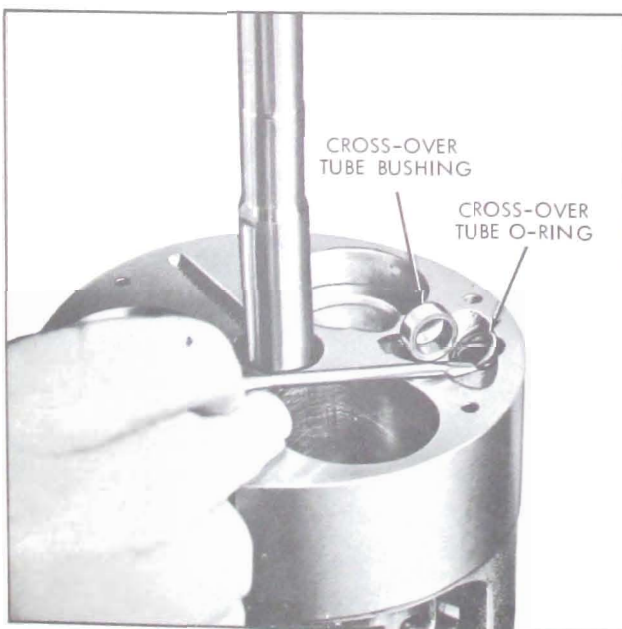

Figure 11-121—Installing Crossover Tube O-Ring
1. Install discharge crossover tube front O-ring and bushing. See Figure 11-121.